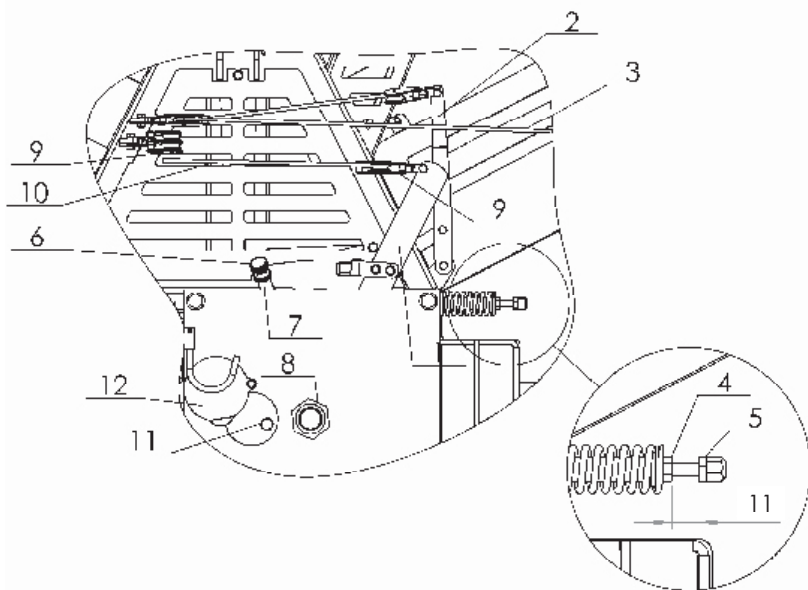
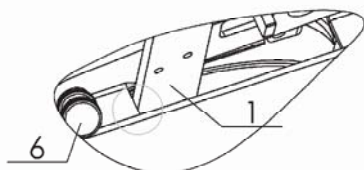

Figure 11
Figure 11a (lever rest)
Once the winch is properly connected to the tractor, you can start unreeling the wire rope. Pull the wooden lever on a red string (pos. 3, figure 11) and thus move lever 2 to the OFF position (figure 11). The brake is released and the wire rope can be unreeled. In case you have just installed the wire rope on the drum or you have noticed that the wire rope is not installed properly, you should unreel the entire wire rope and then reel it back tightly, as described in the beginning of this chapter.
Before you pull the black string (pos. 10, figure 11), check that the string is installed properly between the small pulleys (pos. 9, figure 11). The lever (pos. 1, figure 11) should return to its original OFF position as soon as you stop pulling the string (pos. 10, figure 11).
Any interference with the activation mechanism which would prevent synchronous operation of clutch and brake is prohibited. It is also forbidden to pull the red brake string (pos. 3, figure 11) during the towing.
Once you have installed the dynamometer (spring balance), pull the string with a force of 350 N (35 kg) and check the position of the lever (pos. 1, figure 11). This lever can be seen in figure 11a. Use the nut on the main shaft (pos. 8, figure 11) to regulate the position of the lever (pos. 1), until the lever is not touching the backrest.
In case you tightened the nut too hard (pos. 8, figure 11) and the lever moved away from the backrest, the necessary axial force on the friction surface of the clutch has been reduced too much.
Use a screw (pos. 6) and a lock nut (pos. 7, figure 11) to set the safety brake. First loosen the lock nut and regulate the screw (pos. 6). By turning the screw clockwise, you increase the brake force and by turning the screw anti-clockwise, you decrease the brake force. Then tighten the lock nut which prevents the screw from becoming loose. A proper setting means that the wire rope will not unreel from the drum automatically or too easily. This can lead to wire rope damage when you release the brake and start unreeling the wire rope. The safety brake is set properly when the wire rope can be unreeld without too much effort. In case you are pulling the rope up a slope, it is possible to additionally relieve the brake so that the pulling of the rope is easier. But after you finish the work, the safety brake must be returned to its original position (as describe above).
The brake is set via a nut (pos. 5, figure 11). The brake lever (pos. 2) must be in the ON position (figure 10). First use a wrench key to loosen the nut (pos. 4), then to turn the nut with the screw (pos. 5) to the left in order to tighten the brake belt and vice versa. For optimal operation the gap between the nuts must be 11 mm. If the brake force is not sufficient, repeat the procedure and tighten the nut (pos. 5) to the left. If brake force is set too high, the unreeling of the rope is more difficult. In such cases, turn the nut to the right. At the end, tighten the nut (pos. 4).
First, remove the triangular protective net on the winch column. Then rotate the cover (pos. 12, figure 11) and rotate the drum in a position, which enables unscrewing of the bolt (pos. 11) on the drum. Insert the wire rope in the guide of the upper pulley and direct it through the upper pulley to the rope drum. Insert the rope in the groove and tighten the bolt (pos. 11, figure 11). Then start to wind according to the procedure, which applies to towing. Once the entire length of the wire rope is wound, unwind it again and wind it again strongly according to the procedure, which is described in the chapter "Wire rope unwinding" to prevent damage to the rope.